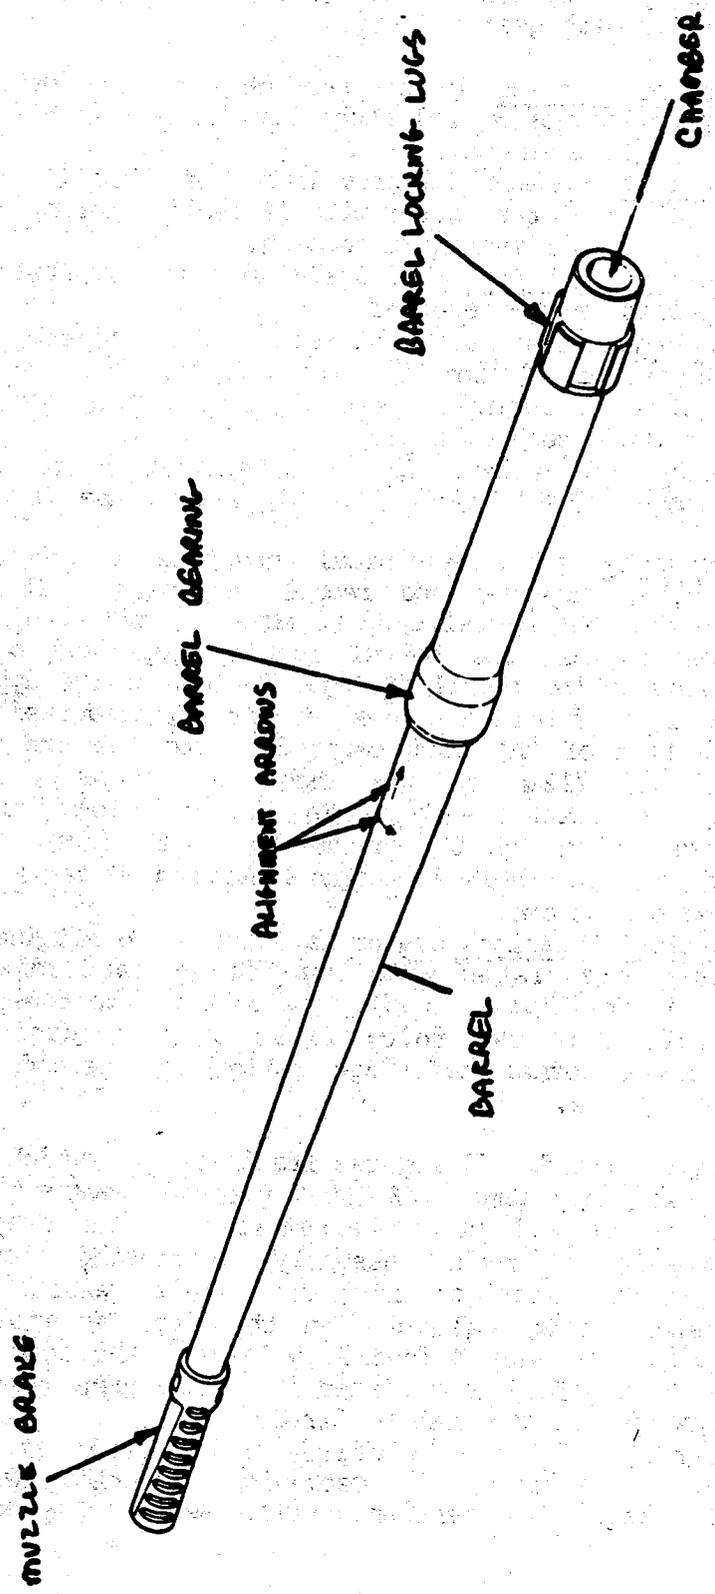

Fig. 31
a. Barrel. (See Fig. 31) The barrel gives directional control to the projectile.
- (1) Muzzle brake suppresses 15% of recoil.
- (2) Alignment arrows are used to assist in the installation and removal of the gun barrel in the receiver assembly.
- (3) The barrel bearing provides for barrel stability during recoil and post recoil movement when firing.
- (4) The barrel locking lugs positively engages the breech assembly when the barrel is installed in the receiver assembly.
- (5) The chamber provides for positive seating of the 25mm cartridge during firing.